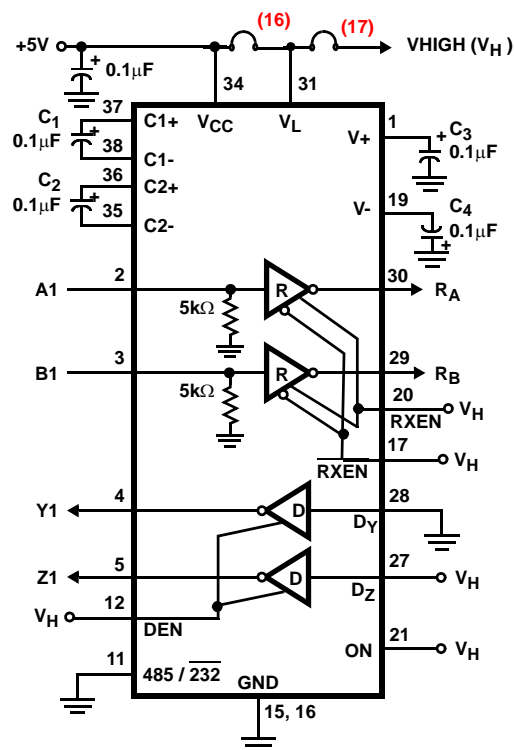

FIGURE 1. DEFAULT RS-232 CONFIGURATION
To set the board for RS-232 evaluation, start with the jumpers in the “default configuration”, and move jumper “A2 (485/232)” (7) to the “LOW” position. If RS-485 termination resistors (“R7” or “R9”) were added, ensure that they have been removed. Note that the RS-232 data rate is fixed at 500kbps, so the “SPB” (9) jumper has no affect (connect it high to minimize SHDN I_{CC}), and that the “SLEW” pin becomes the second driver input, DZ. Figure 1 illustrates the 41387 configuration in this mode.
In the default configuration of Figure 1, RB (measure at the “RA1 (RB)” test point to the left of jumper (14)) and RA (measure at the “RB1(RA)” test point to the right of